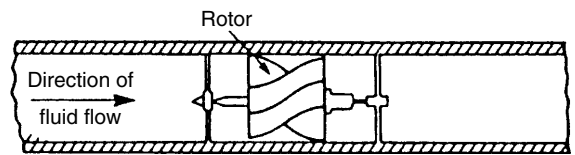

Figure 22.9
- (c) A **turbine flowmeter** contains in its construction a rotor to which blades are attached which spin at a velocity proportional to the velocity of the fluid which flows through the meter. A typical section through such a meter is shown in Figure 22.9. The number of revolutions made by the turbine blades may be determined by